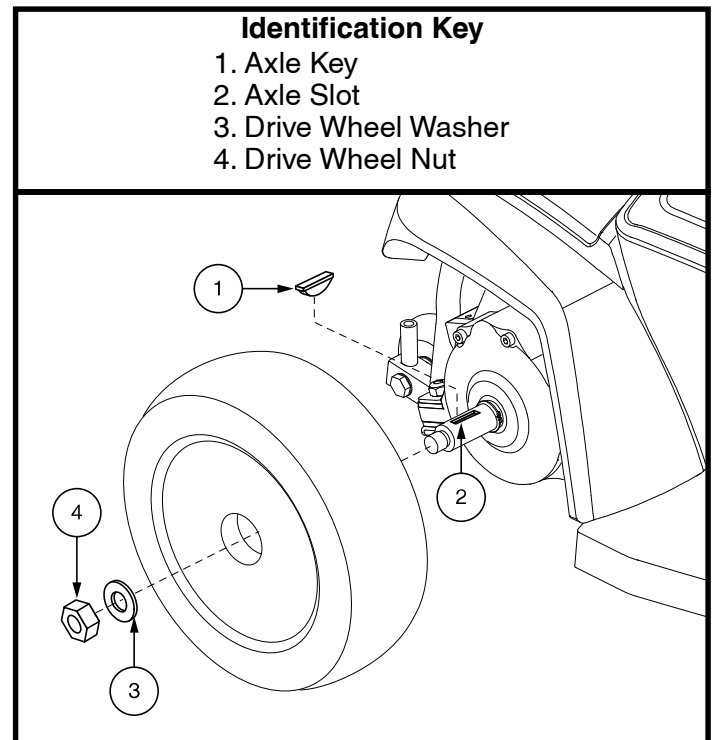

Figure 21. Go Chair Drive Wheel
3. Remove the drive wheel nut and washer from the axle. **See figure 21.**